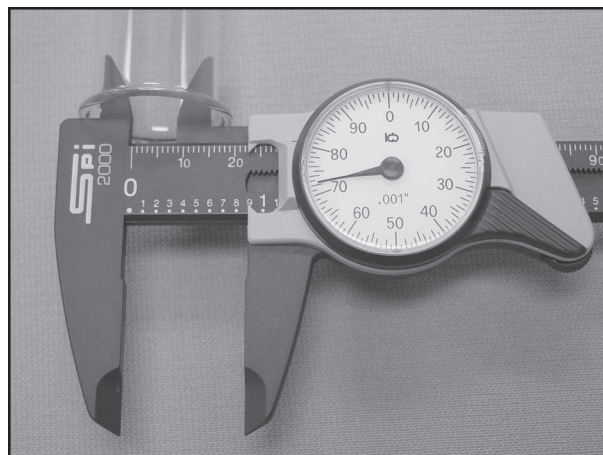

Figure R7.2 | Measuring the Inner Diameter of a Test Tube
C. These calipers are also capable of measuring the inner dimensions of objects such as pipes, cans, etc. For these types of measurements, the upper set of jaws is placed inside the object to be measured and the wheel is turned until the set of jaws is firmly seated in the space to be measured (Figure R7.2).